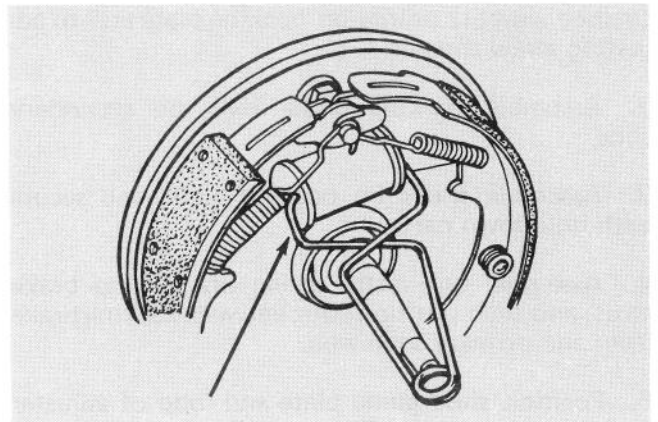

Figure 101
3. Install wheel cylinder clamp (Fig. 101) to hold wheel cylinder pistons in place.